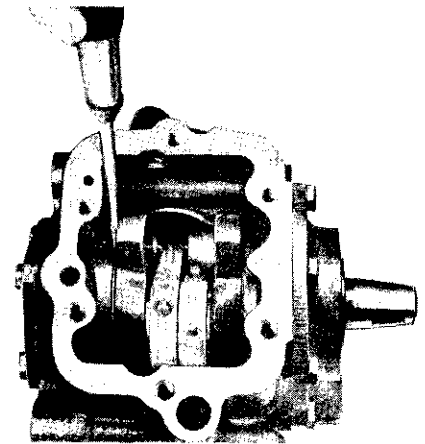

Fig. 14—Measuring Crankshaft Axial Movement
(1) Press crankshaft ball bearing on crankshaft using a sleeve which bears on inner race **only**.
(2) Install crankshaft, making sure the thrust washer is on the rear bearing journal before placing crankshaft in the crankcase.
(3) Rotate crankshaft to engage the oil pump shaft in the crankshaft slot.
(4) Install new gas seal and crankshaft bearing housing. Use a suitable tool, as shown in Fig. 14 to assure free axial movement.
(5) Install pistons and connecting rods.
(6) After pistons and connecting rods are installed, turn the crankshaft to check freeness. Shaft should turn without binding.
(7) Install oil sump, valve plates and cylinder heads, using new gaskets.